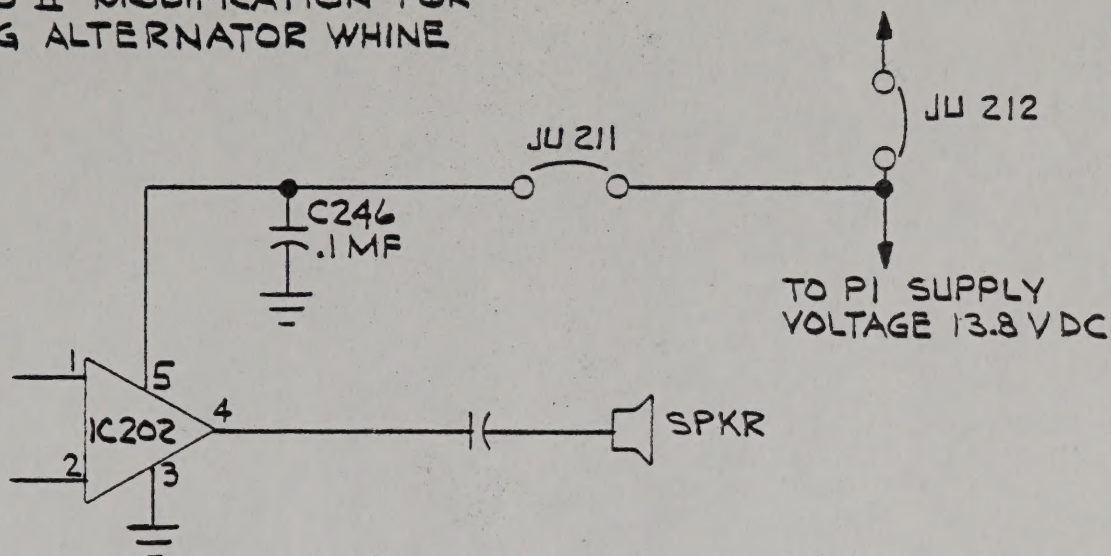
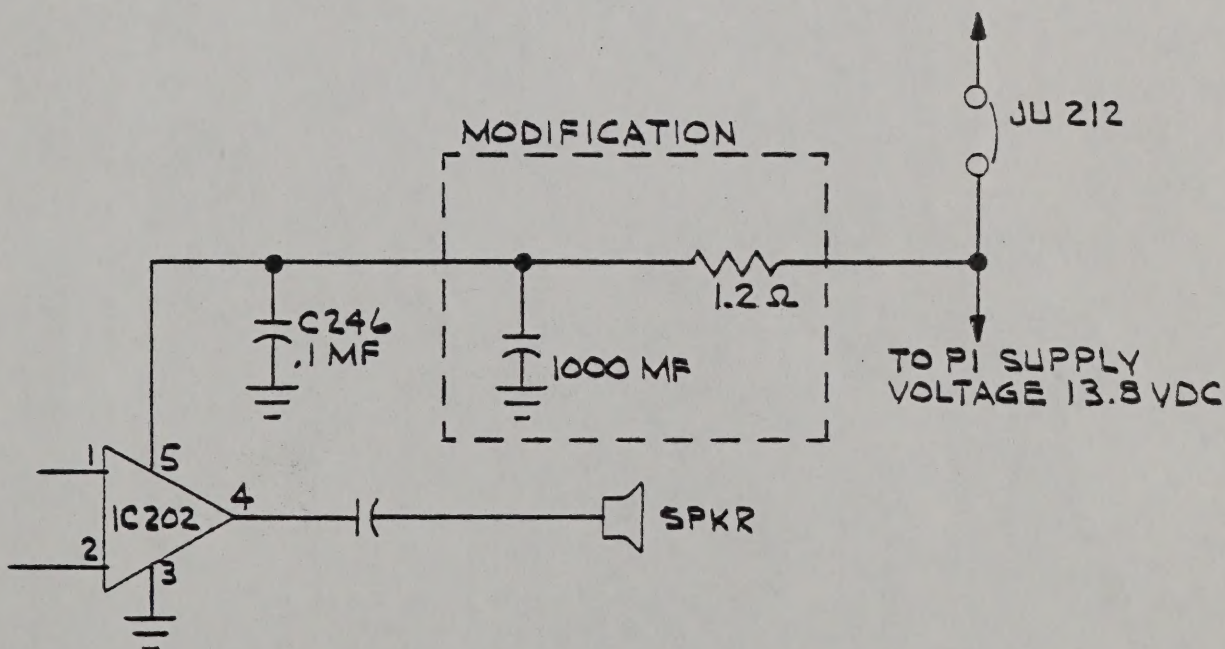

FIG. 4
FIG 5
Step 1 - Remove jumper JU211 that supplies 13.8 VDC to Pin 5 of IC202. Replace the jumper with a 1.2 ohm, 1W resistor. See Figure 4 and Figure 5.